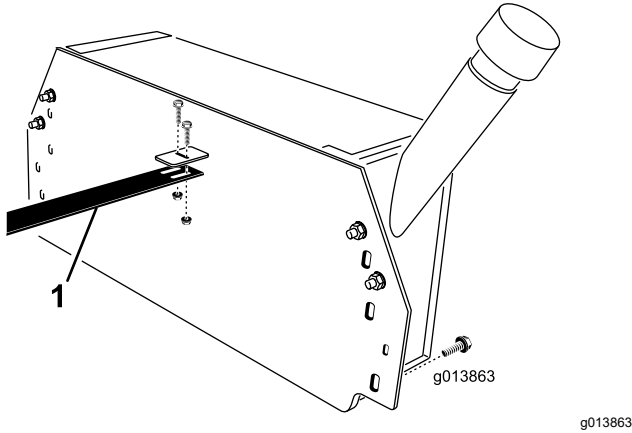

Figure 9
2. Using the 2 bolts (1/4 x 3/4 inch) and flange locknuts, attach the hose guide to the bracket on the hydraulic tank (Figure 9).